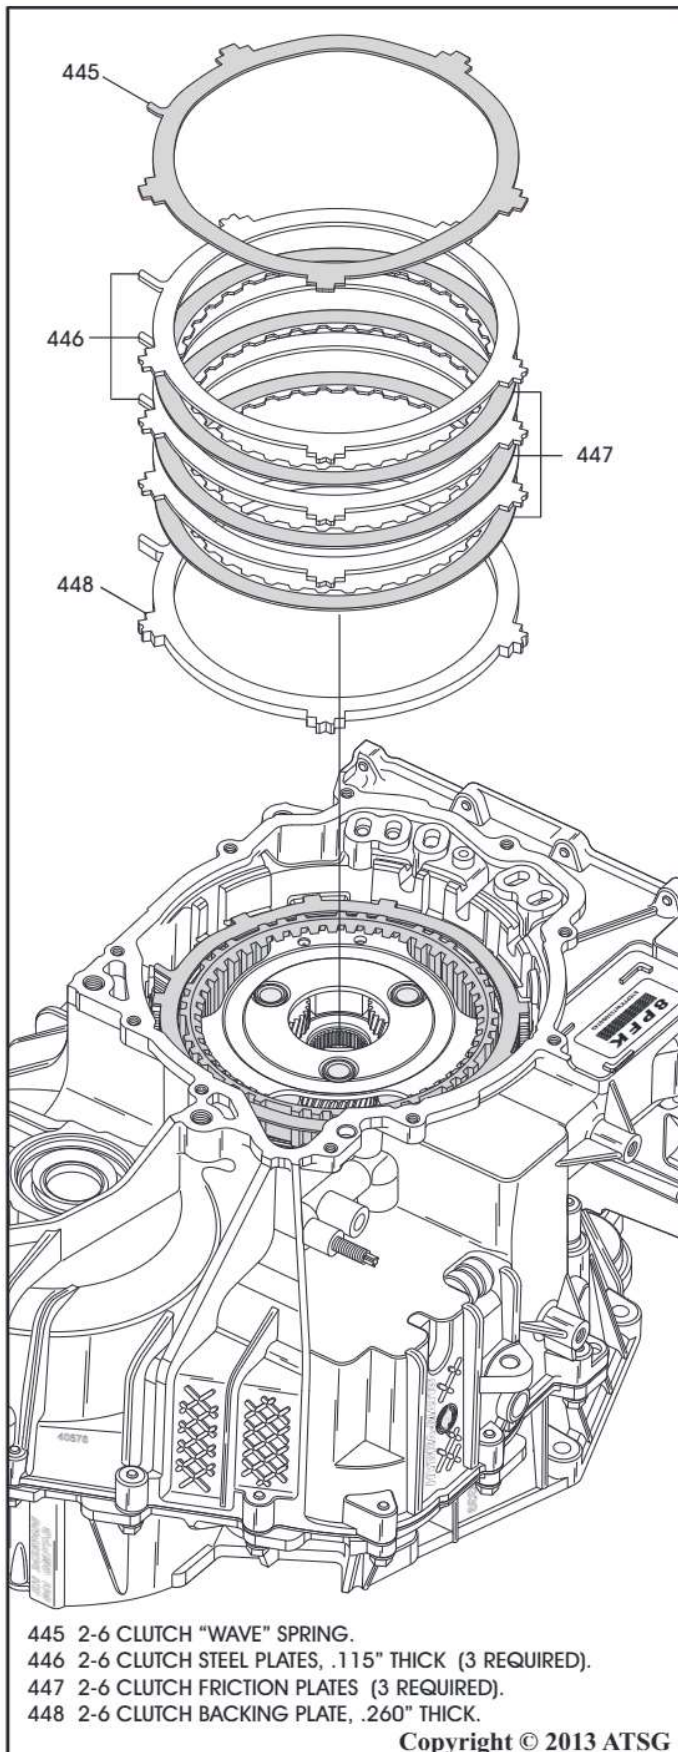

Figure 58
28. Remove the 2-6 clutch "wave" cushion plate, as shown in Figure 58.
29. Remove the 2-6 clutch steel and friction plates, three of each, as shown in Figure 58.
30. Remove the 2-6 backing plate, as shown in Figure 58.
Note: Note the location of the long tabs on the wave, steel and backing plates towards the bottom of the case (See Figure 58).